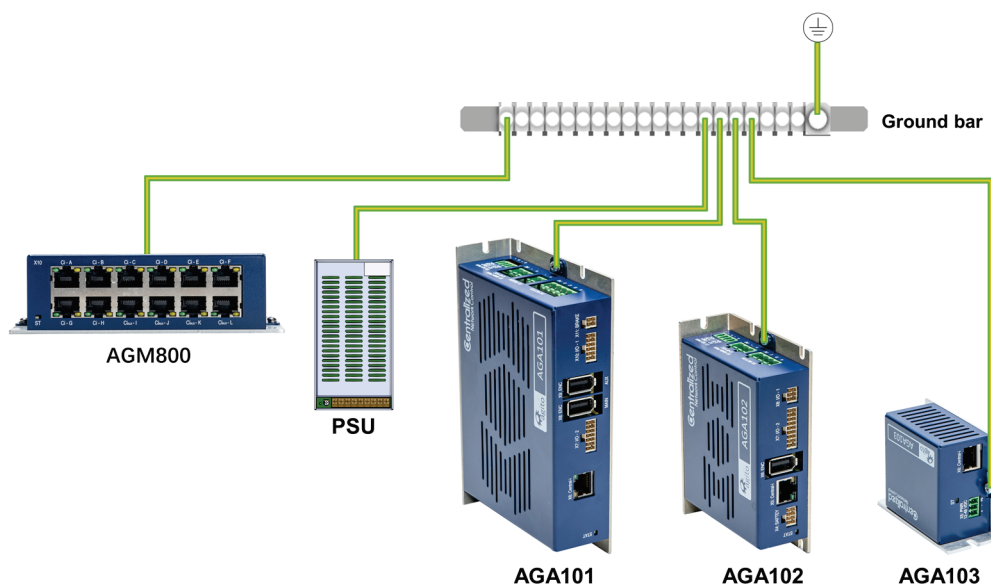

Figure 9. System grounding
- The AGA10x must be connected to protective earth (PE) and connected to the building's ground. PE is protected with an earth-leakage circuit breaker (ELCB); hence it is safe to touch. Refer to Figure 9.